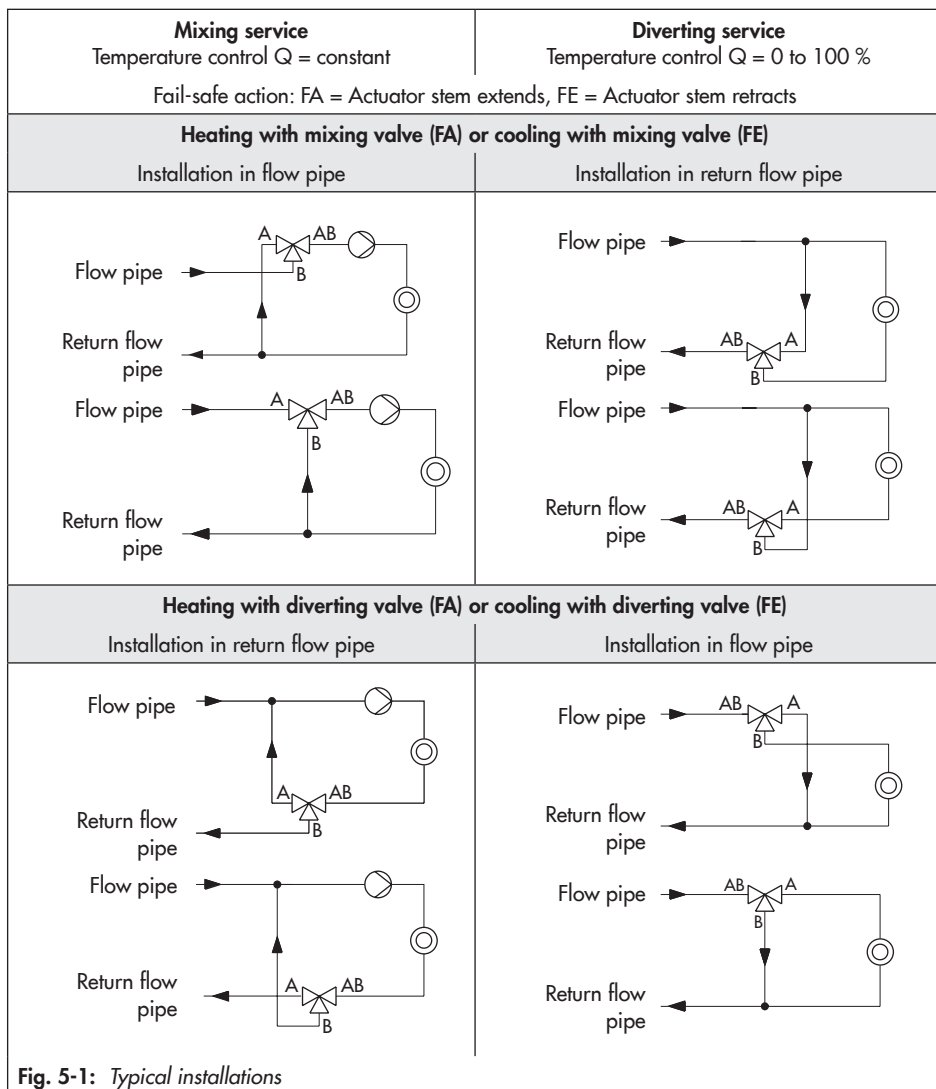

Fig. 5-1: Typical installations
5. Install the valve as shown in Fig. 5-1 depending on whether it is to be used for mixing or diverting service.